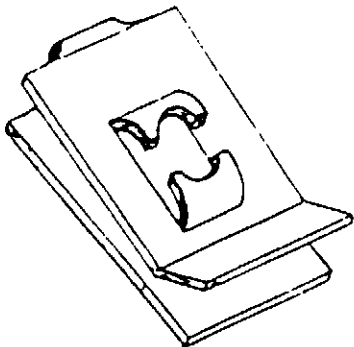

Figure 5
8. Using the two $\frac{1}{4}$ " x $\frac{1}{2}$ " bolts with flat washers, bolt the side shrouds on. Do not tighten bolts. Slide one "tinnerman nut" (illustrated in Fig. 5) over each hole in the Top Shroud Angle located on top of the insert. Position the top shroud with the tabs on each side shroud. Install two $\frac{1}{4}$ " x $\frac{3}{4}$ " screws through the holes in the top shroud and into the "tinnerman nuts" previously installed. Adjust the side shroud to line up with the top shroud. Tighten side shroud bolts, then tighten top shroud screws.